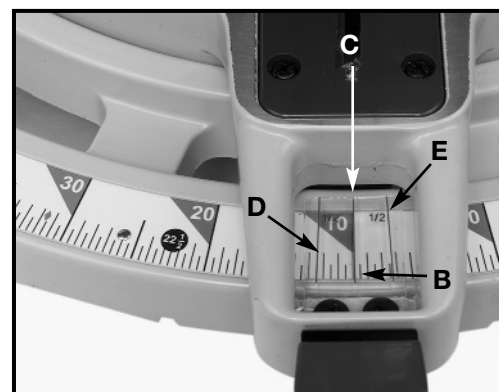

Fig. 13
3. The center line, (C) Fig. 13, on the cursor indicates the actual angle of cut. Each scale line (B) represents 1° . In effect, when the center line (C) is moved from one line to the next on the scale, the angle of the cut is changed by 1° .
4. The pointer is provided with two additional lines (D) and (E), Fig. 13. This allows movement of the control arm exactly $1/2^\circ$. For example, assume the center line (C) is pointing to the 10° mark on the scale, as indicated, and the angle of cut is $1/2^\circ$ to the right. Move the control arm until the right line (E) lines up with the next line on the scale. The angle of cut will then be changed $1/2^\circ$ to the right. If you change the angle of cut $1/2^\circ$ to the left, use the left line (D) in the same manner.